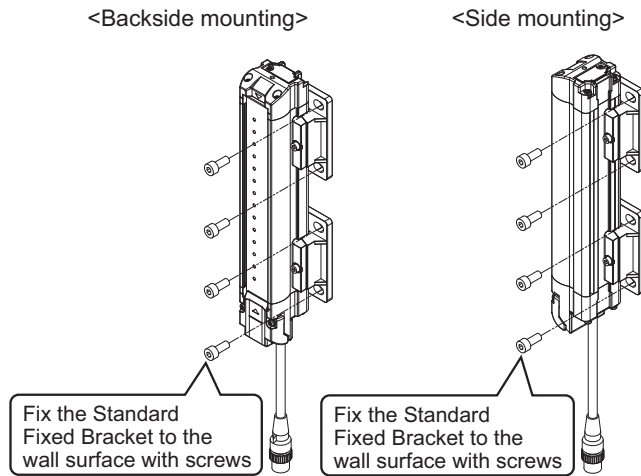

Fig. 4
- Securely tighten the screws to fix the Standard Fixed Bracket to the mounting position of the wall surface. (Fig. 4)